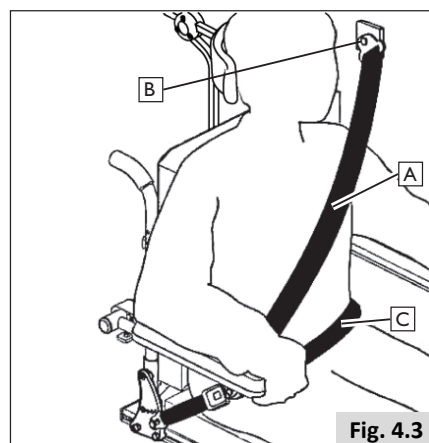

Fig. 4.3
14. Both pelvic and upper torso restraint belts must be used to restrain the occupant to reduce the possibility of head and chest impacts with the vehicle components and serious risk of injury to the user and other vehicle occupants (Fig. 4.3).
15. The upper torso restraint belt (A) should be mounted to the vehicle (B) pillar - failure to do so will increase the risk of serious abdominal injuries to the user (Fig. 4.3).
17. The pelvic restraint belt (C) must be worn low across the front of the pelvis so that the angle of the pelvic belt is within the preferred zone of 30 to 75 degrees to the horizontal (Fig. 4.3).
19. The upper torso restraint belt (A) must fit over the shoulder and across the chest (Fig. 4.3).